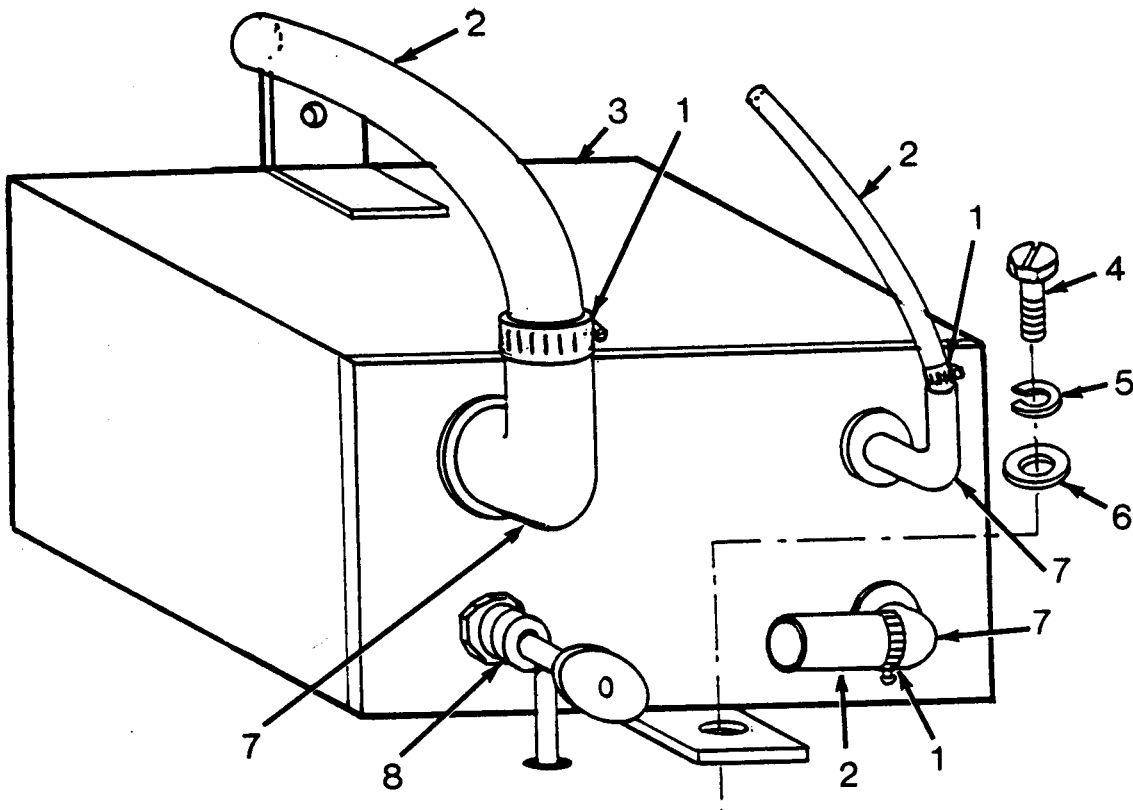

Figure 4-9. Water Tank Assembly
- (2) Replace water tank. (See figure 4-9.)
- (a) Remove water pump. Refer to b(1) above.
- (b) Remove clamps (1) and tubing (2) from water tank (3).